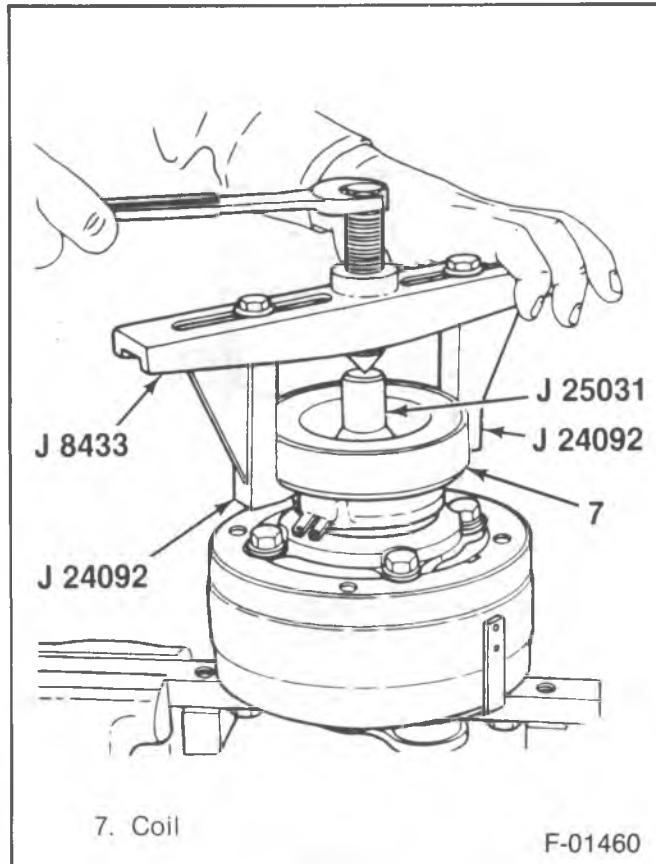

Figure 14—Removing the Poly-Groove Clutch Coil
↔ Remove or Disconnect (Figure 14)
- Clutch coil from the front head using the tools as shown in figure 14.